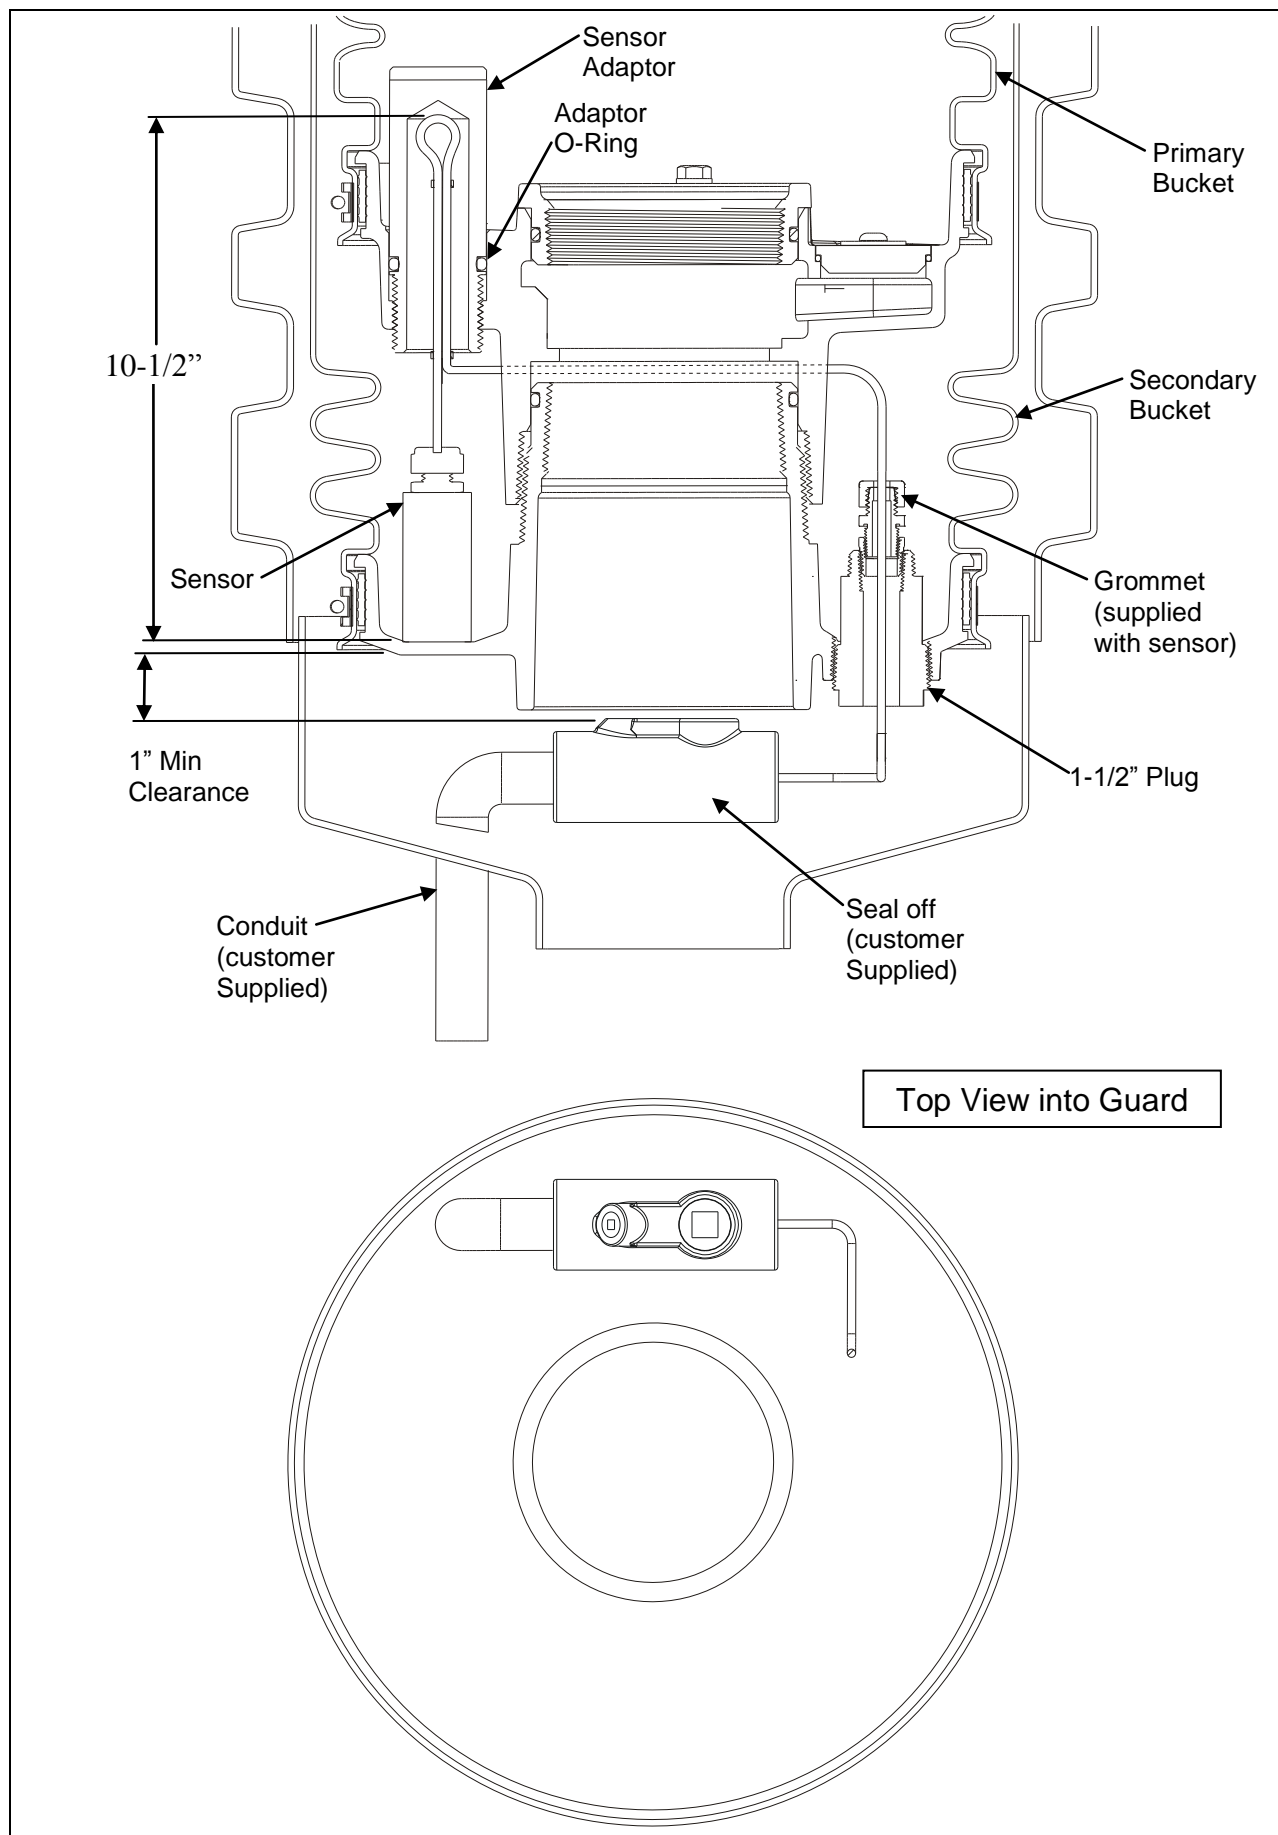

Figure 1
Step 3: (See Figures 1 & 3)
Using the two supplied ty-raps wrap a loop in the wire that is 10-1/2" from the bottom of the sensor to the top of the loop as shown in Figure 1. Trim ty-raps after attaching. Ensure enough wire is available for sensor to reach grade for future testing. A service loop should be left in the secondary bucket in case sensor replacement is ever required in the future.
Step 4: (See Figures 1 & 3)
Step 5: (See Figure 1)
From this point on in the installation the bucket should be kept in a vertical position as shown in Figure 1. Feed excess wire into secondary bucket. Align sensor with the hole in the primary base where the sensor adaptor will be installed as shown in Figure 1. Ensure sensor is as flat as possible on bottom of secondary base. Inspect o-ring on sensor adaptor replace if it is not in good condition. Thread sensor adaptor back into primary bucket until o-ring is no longer visible (approximately 6 turns), do not overtighten.
Step 8: (See Figures 1 & 3)
Attach sensor wiring to conduit as shown in Figures 1 & 3. Ensure adequate clearance (1" or more) is left between secondary base and seal off (customer supplied) to allow for bellows movement. Ensure no obstructions are directly below the plug in the secondary base to enable removal of the plug in the future. Use SL-1100 or equivalent to seal around conduit where hole was drilled in guard to prevent backfill from entering. Complete sensor wiring per sensor manufacturer's instructions and all applicable codes and regulations. Ensure sensor is working properly.